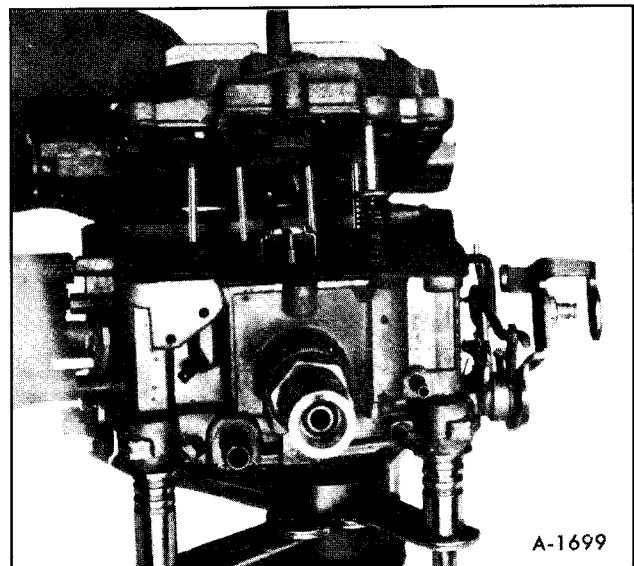

Figure 14—Removing Air Horn
6. The air horn assembly may now be removed from the float bowl by opening the throttle valve wide open and lifting up on the air horn and turning sideways until the pump rod disengages from the upper pump lever as shown in Figure 14.